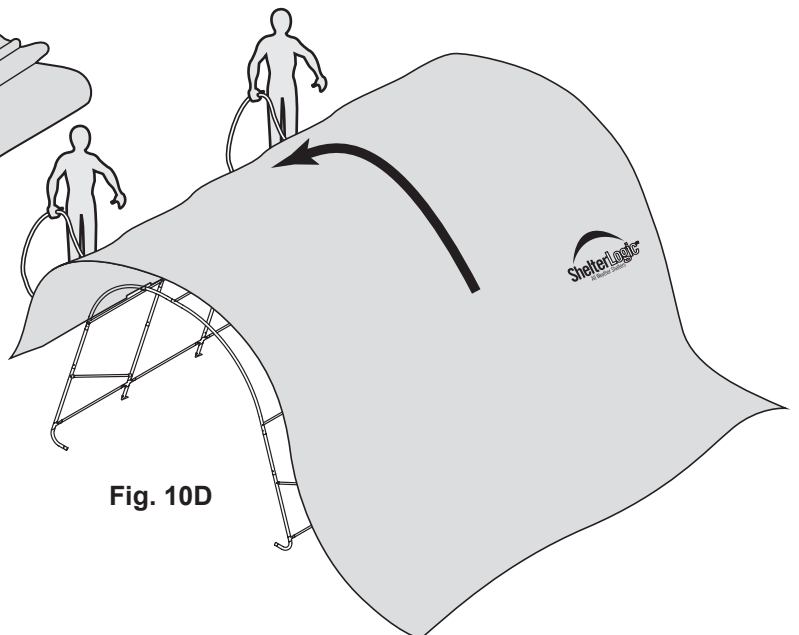

Fig. 10D
4. Move to the other side of the frame and pull the cover over the frame with the rope. This may require two or more people. Fig. 10D